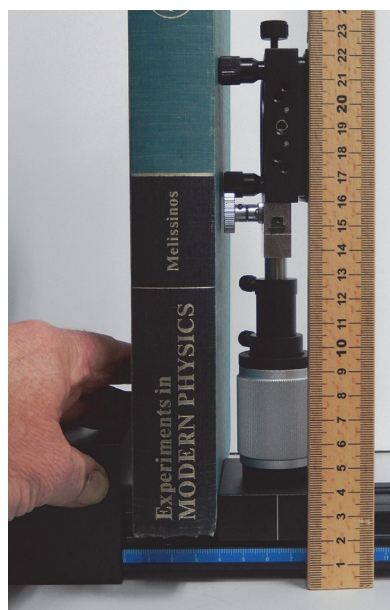

Figure 9: Align the Assembly
6. Hold a book vertically against the base of the optical carrier. Rotate the assembly so that both of the black X - Y adjustment screws on the collimating lens side of the assembly both touch the book. (see Figure 9).